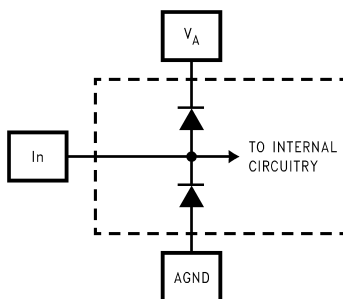

Figure 2.
(1) The inputs are protected as shown below. Input voltage magnitude up to 300 mV beyond the supply rails will not damage this device. However, errors in the A/D conversion can occur if the input goes beyond the limits given in these tables. See Figure 2
(2) Typical figures are at $T_j = 25^\circ C$, and represent most likely parametric norms.
(3) Test limits are specified to TI's AOQL (Average Outgoing Quality Level). Performance is ensured only at $V_{REF} = 1.0V$ and a clock duty cycle of 50%. The limits for V_{REF} and clock duty cycle specify the range over which reasonable performance is expected. Tests are performed and limits specified with clock low and high levels of 0.3V and $V_D - 0.3V$, respectively.
- (1) The inputs are protected as shown below. Input voltage magnitude up to 300 mV beyond the supply rails will not damage this device. However, errors in the A/D conversion can occur if the input goes beyond the limits given in these tables. See Figure 2
- (2) Typical figures are at $T_J = 25^\circ C$, and represent most likely parametric norms.
- (3) Test limits are specified to TI's AOQL (Average Outgoing Quality Level). Performance is ensured only at $V_{REF} = 1.0V$ and a clock duty cycle of 50%. The limits for V_{REF} and clock duty cycle specify the range over which reasonable performance is expected. Tests are performed and limits specified with clock low and high levels of 0.3V and $V_D - 0.3V$, respectively.